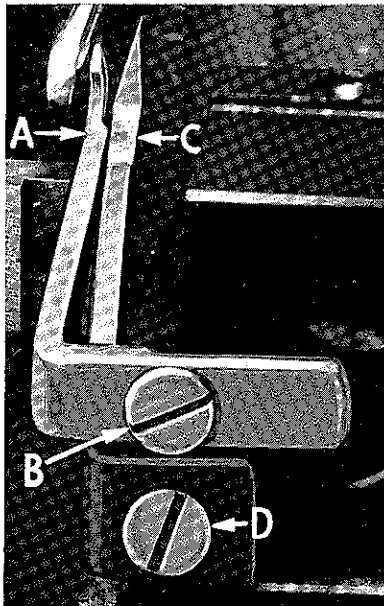

Fig. 5
Set rear needle guard (A, Fig. 5) as high as possible, without interfering with either lower looper or movement of lower knife holder, but still in position to deflect needle forward $.002 - .004$ inch. Screw (B) is used to set rear needle guard. Make sure there is no interference between rear needle guard and lower looper.
Assemble front needle guard (C, Fig. 5). When lower looper is springing needle off back guard, set front needle guard as close as possible to needle without touching. Screw (D) is used to adjust and set front needle guard. After this setting make sure there is no interference between needle guards and differential feed dogs.